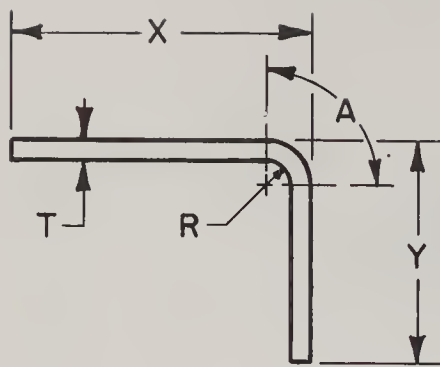

Fig. 23-4. Diagram for calculating developed length using formula.
To find A (the lineal length of a 90 deg. bend), Fig. 23-4, when R (inside radius) is LESS THAN TWICE THE STOCK THICKNESS use the formula:
To find the developed length of the part after the lineal bend length (A) has been found, refer to the diagram in Fig. 23-4 and use formula which follows: